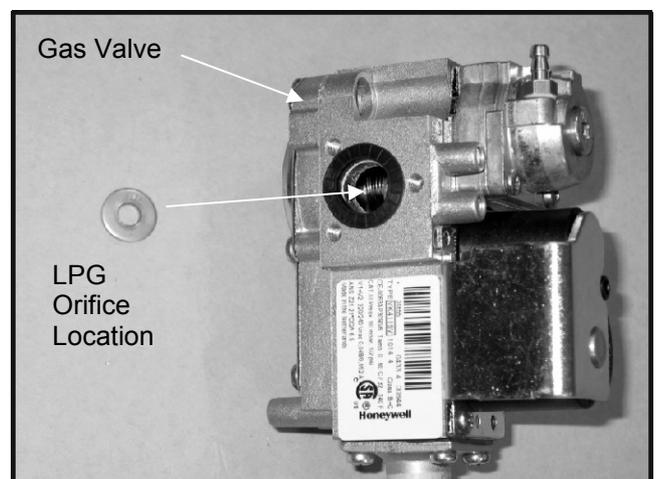

Figure A5
5. Following separation of the venturi from the gas valve the rubber seal will be clearly visible, see fig A5. All Milborne's are supplied Natural Gas as standard so there will be no orifice fitted to the gas valve air inlet passage.